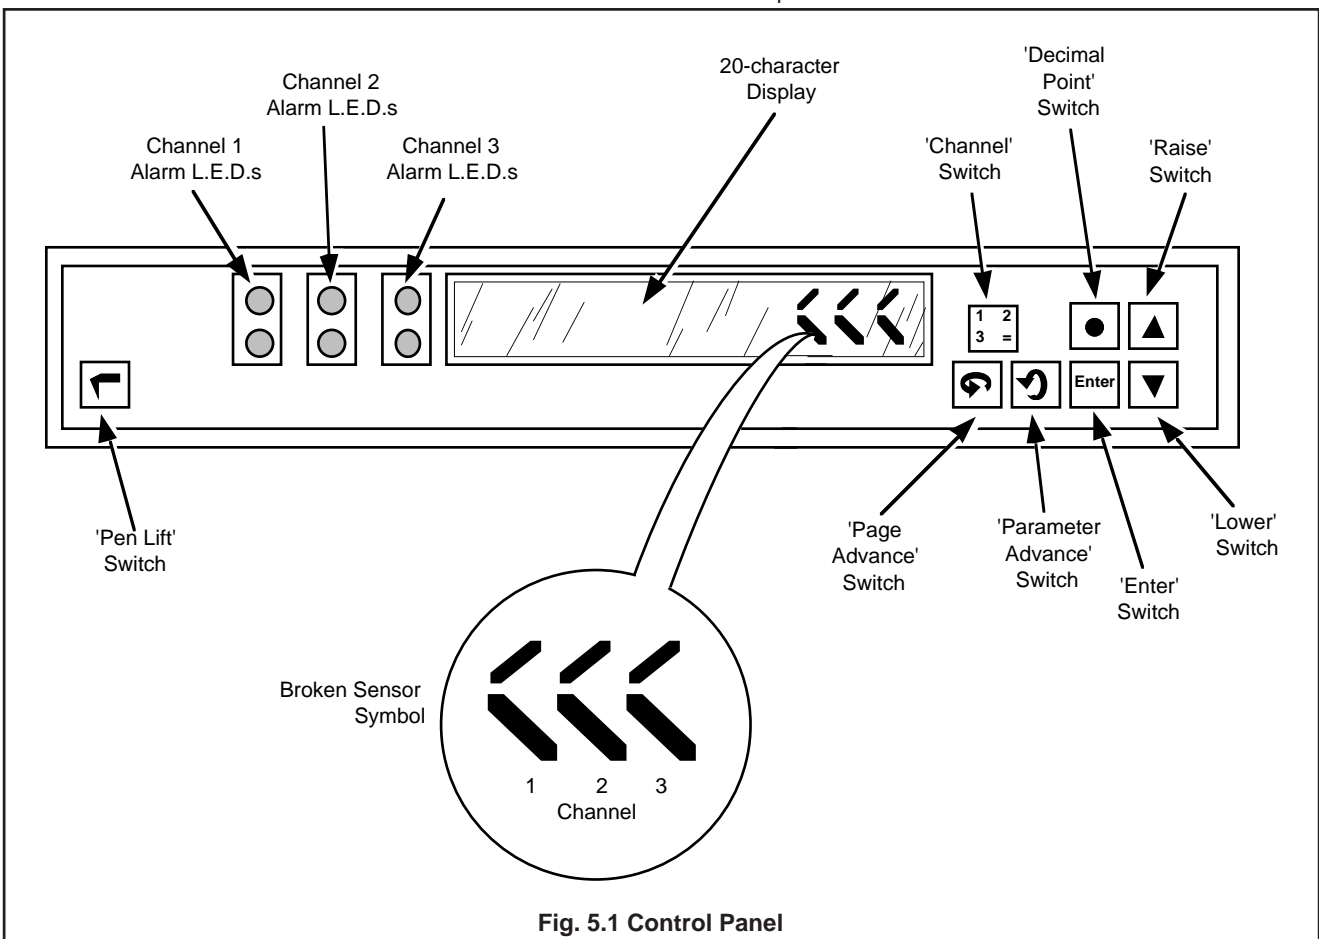

Fig. 5.1 Control Panel
5.1 Controls – Fig. 5.1
5.2 Display – Fig.5.1
The position of broken sensor symbols on the display identifies the channel affected – see Fig. 5.1.
5.3 Alarm L.E.D. Indication – Fig. 5.1
With the power supply to the instrument turned on operate the 'Pen Lift' switch – see Fig. 5.1.
In normal operation the measured values for all channels are displayed in an 'auto-advancing' sequence (**Operating Page 1**). Each parameter can be held for viewing by operating the 'Parameter Advance' switch – see Fig. 5.1.
Operating the 'Page Advance' switch selects a second Operating Page (**Operating Page 2**) for viewing or changing the alarm set points. Required changes to the set point values are made using the 'Raise' and 'Lower' switches see Fig. 5.1.
A further series of pages can be selected using the 'Channel' and 'Page Advance' switches if the Security Link is enabled – see Figs. 5.1, 8.1 and 8.2 on pages 16, 22 and 23.
Any changes to the operating parameters are made using the 'Raise', 'Lower', 'Decimal Point' and 'Enter', switches see Fig. 5.1.
Carry out all programming, other than calibration (see Section 10) with the pens lifted. If the pens drop during programming, operate the 'Pen Lift' switch – see Fig. 5.1.